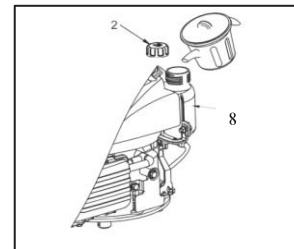

Fig. 5
1. Remove the fuel cap (2).
2. Add fuel to the bottom of the fuel level limit in the neck of the fuel tank (8). (See Fig. 5)